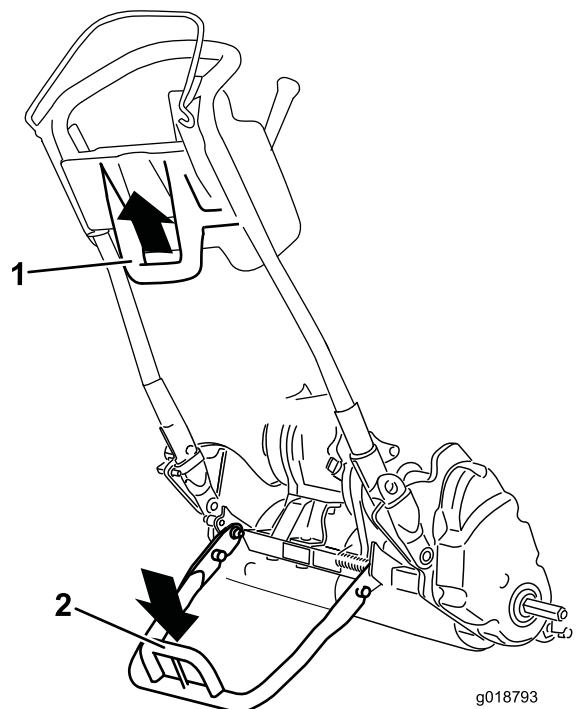

Figure 28
- To use the kickstand to install the transport wheels, lower the kickstand to the ground and step down on the loop while pulling up and back on the lower-center handle (Figure 28).